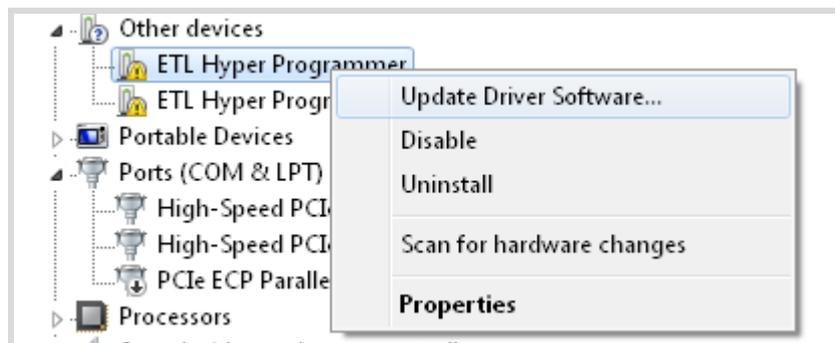

Figure 4. The "Update Driver Software" menu item selection
- Right Click on the first "ETL Hyper Programmer" device and then select "Update Driver Software" menu item (Figure 4).
- Right Click on the first "ETL Hyper Programmer" device and then select "Update Driver Software" menu item.(Figure 4).